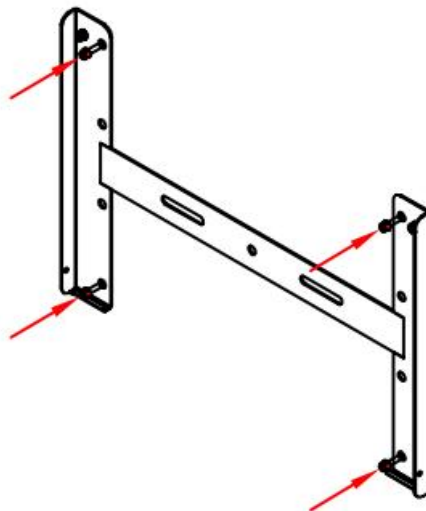

Figure 4-5
Step 3: Correctly install the wall mounting bracket on the wall, refer to Figure 4-5